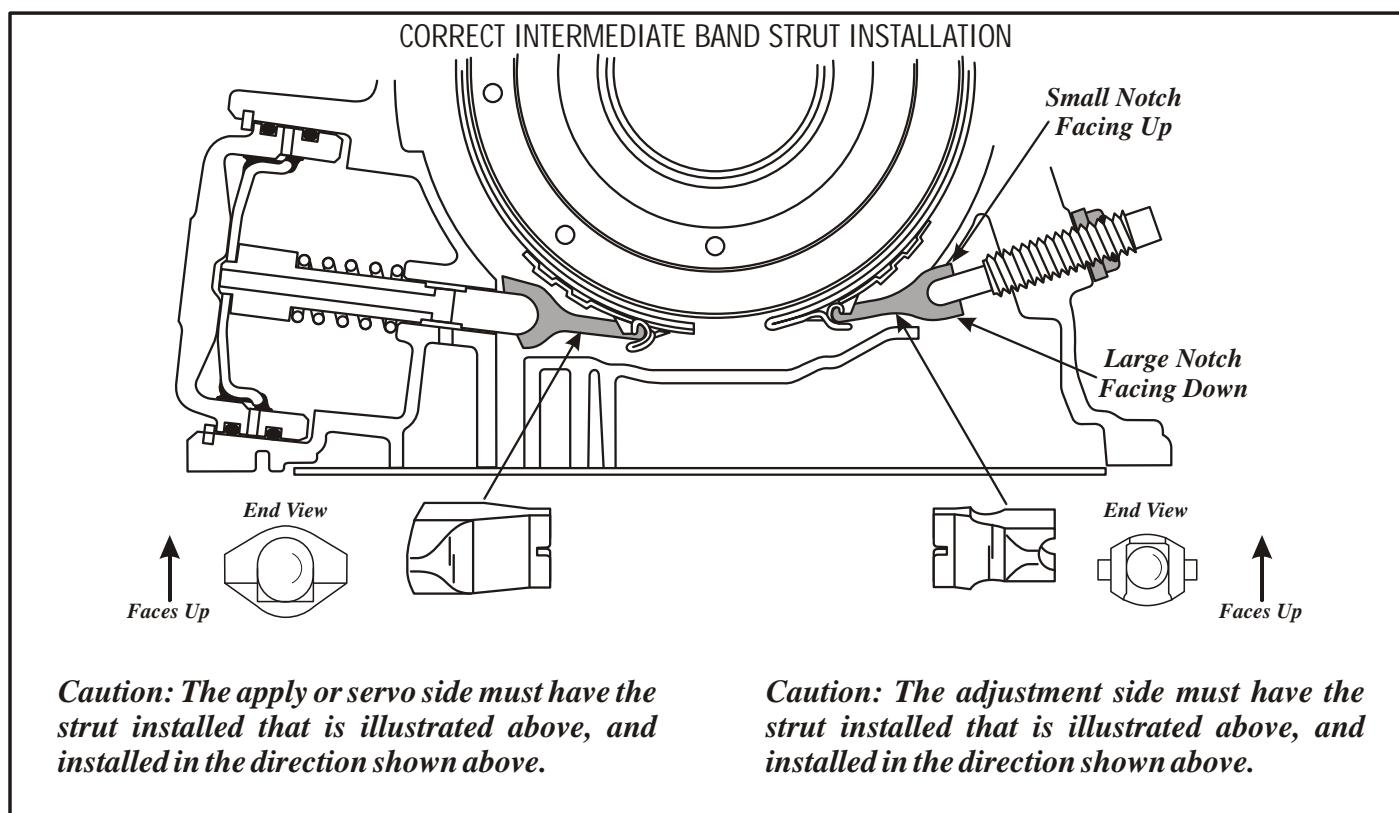

Figure 150
35. Install the intermediate band struts on each side of the band *exactly* as shown in Figure 150.